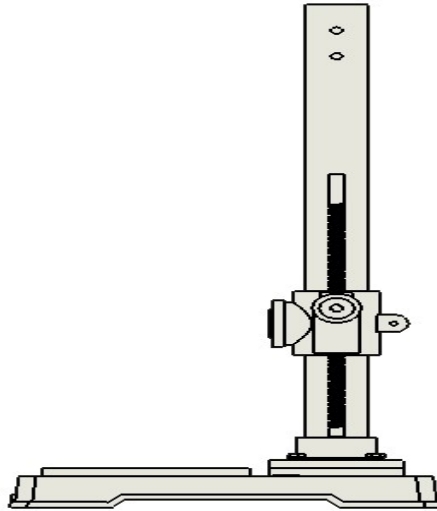

Figure 3
Step 4 The bench seat and a rack attached to the column together, and insert the bottom end of the rack into the groove inside the upper end of the column plate. Figure 3